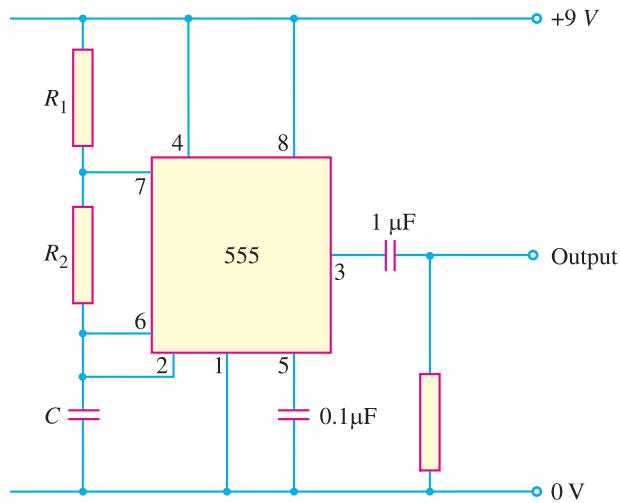

Fig. 23.18
**(iv) The 555 Timer as astable multivibrator.** Fig. 23.18 shows the 555 timer as an astable multivibrator. Note that the circuit contains two resistors ( $R_1$  and  $R_2$ ) and one capacitor ( $C$ ) and does not have an input from any other circuit. The lack of a triggering signal from an external source is the circuit recognition feature of the astable multivibrator.
**Example 23.3.** Determine the frequency of the circuit shown in Fig. 23.18. Given that  $R_1 = 3 \text{ k}\Omega$ ;  $R_2 = 2.7 \text{ k}\Omega$  and  $C = 0.033 \mu\text{F}$ .